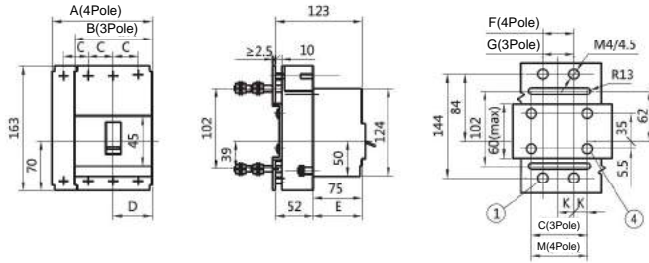

Fig7
6.1.4 Insert type install board back connect circuit breaker shape and install dimension see Fig7.